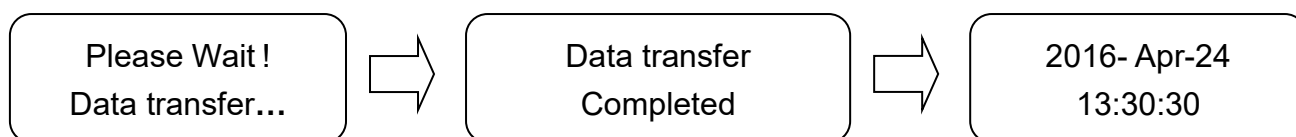

Figure 69
- (b) After completing a sterilization cycle, the data will be stored to USB flash drive; and the recorder returns to stand-by mode. The sequences of storage message are shown in the Figure 69.